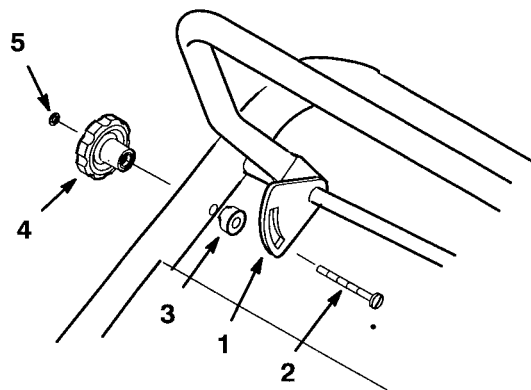

Figure 3
1. Pivot reference handle upward until slot in bracket aligns with hole in handle (Fig. 3).
2. Assemble handle bracket to upper handle with 1/4 x 3" (78 mm) carriage bolt, spacer, knob and bolt retainer (Fig. 3).